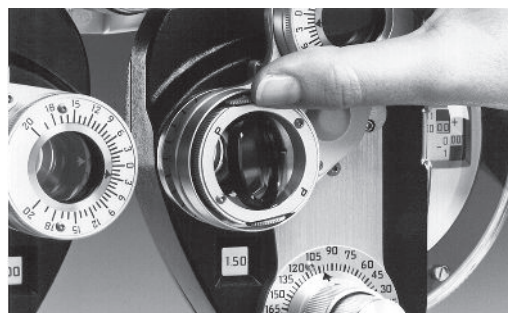

Figure JC-2 Flip Cross Cylinder
4. The axis check test is performed in the usual manner with the cross cylinder lens flipped from position I to position II. Refer to Figures JC-2.